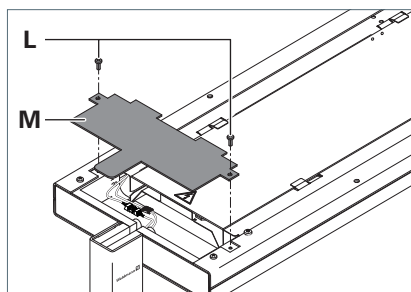

Fig. 19: Mounting the cover
- Place the cover **M** on the light head, see Fig. 19.